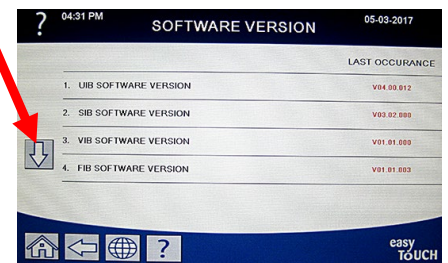

Figure 18
6. Press the down arrow button **TWO (2) times** (see Figure 18).